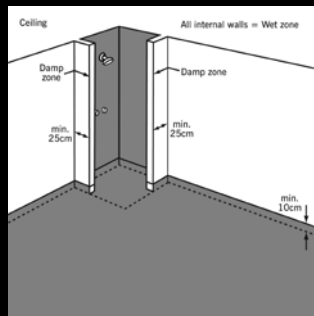

fig 2
- the area inside the shower enclosure, which should be covered up to the ceiling. **See fig 2.**